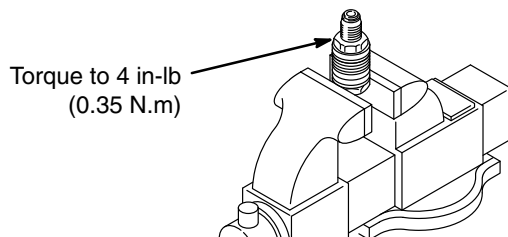

Fig. 24 02567
2. Place the flats of the piston valve in a vise. Tighten the packing retaining nut against the piston valve to 4 in-lb (0.35 N.m). See Fig. 24.